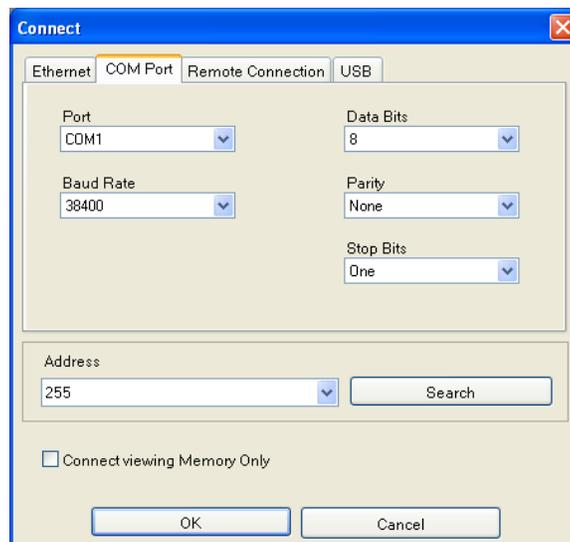

Figure 6-10. Connection Window, COM Port Tab
3. The *Connect* dialog box appears as shown in Figure 6-10.